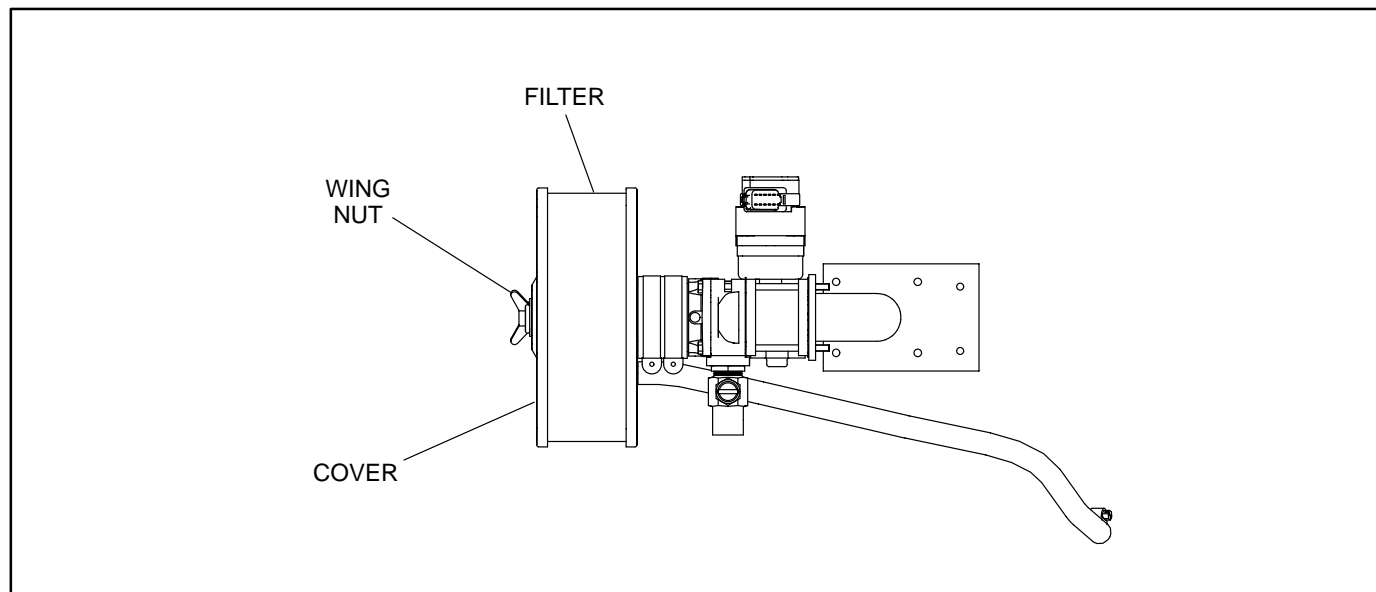

FIGURE 5-6. NORMAL DUTY AIR CLEANER
### Normal Duty Air Filter (Figure 5-6)
1. Remove wing nut in center of filter cover (Figure 5-6).